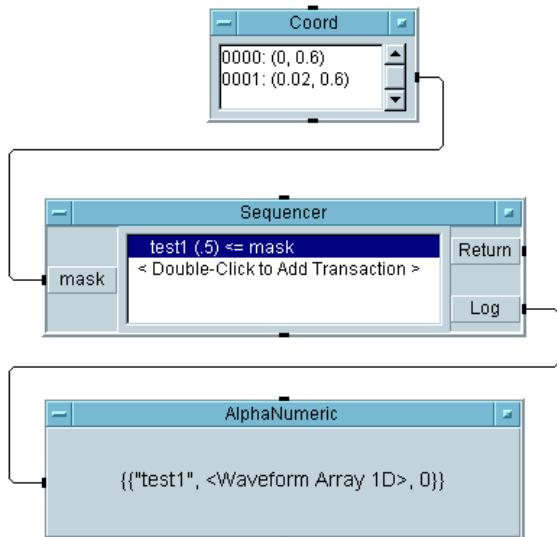

Figure 9-13. Comparing a Waveform to a Mask
8. Save the program as seqdat3 and run it. It should look like Figure 9-13.